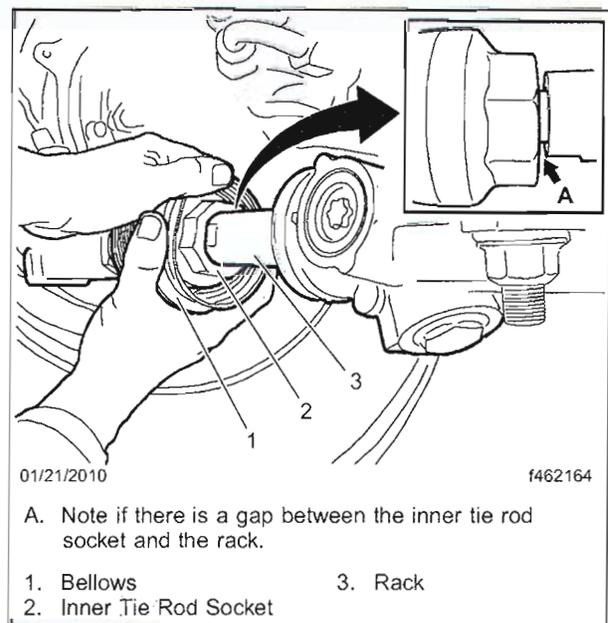

Fig. 2, Inner Tie Rod Inspection
9. Visually inspect the connection between the rack and the inner tie rod. Note if there is a gap present between the inner tie rod socket and the rack (Fig. 2, Items 2, 3, and A). This information will be used in step 32.